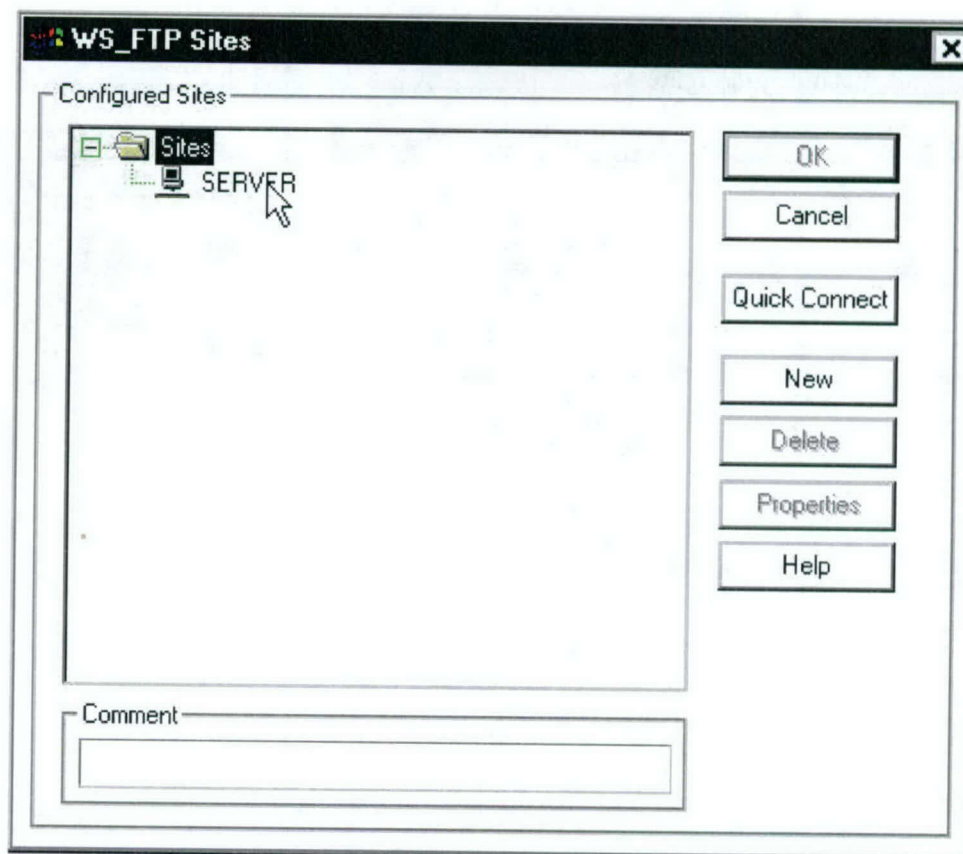

Figure 42. Selecting the TEOC Server site from the WS_FTP sites list
- h. Select SERVER from the WS_FTP Sites window (Figure 42).